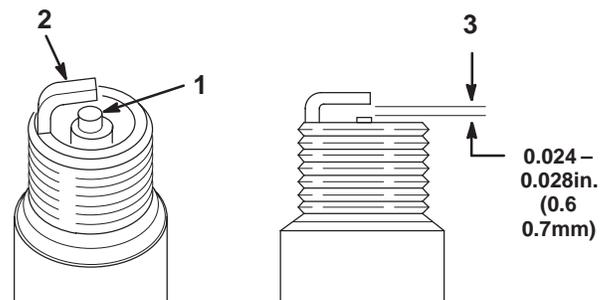

Figure 45
1. Clean the electrodes by scraping or with a wire brush to remove carbon deposits and wetness (Fig. 45).
2. Inspect spark plug (Fig. 45).
3. Check the gap between the center and side electrodes (Fig. 45). Bend the side electrode (Fig. 45) if the gap is not correct.